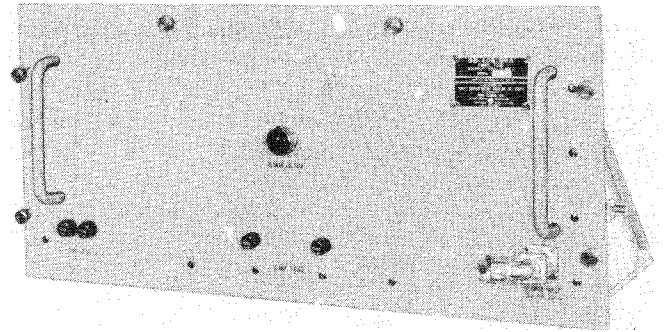

Figure 1-3. Panel, Fuse SB-406/SRA
d. PANEL, FUSE SB-406/SRA.—Panel, Fuse SB-406/SRA (see figure 1-3) is used in all three coupler groups. It is located on the first deck of Cabinet, Electrical Equipment CY-1670/SRA.